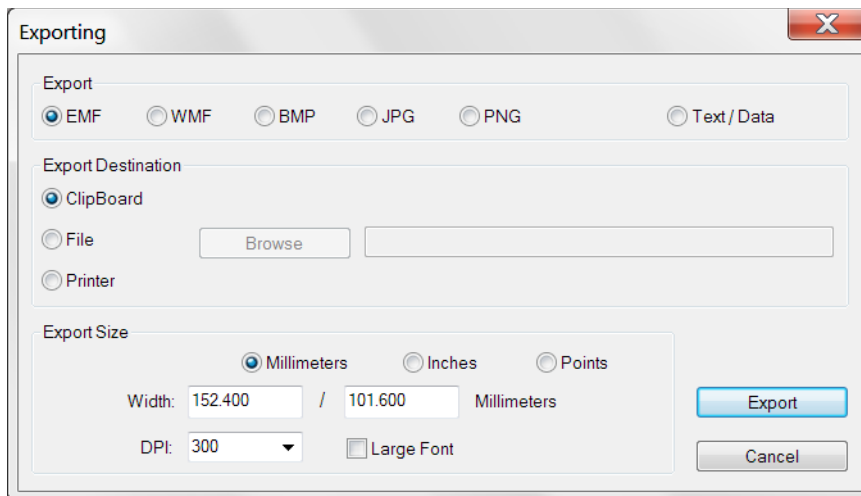

Figure 5-61: Exporting Dialog Box
2. In the **Exporting** dialog box (see Figure 5-61), select the export options and click **Export**.